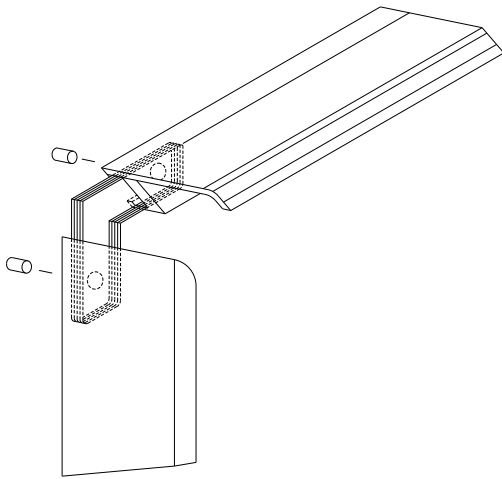

Figure 2.8.2a
2. Assemble the faceplate trim by setting the mitered corners using corner brackets. (See Figure 2.8.2a.)